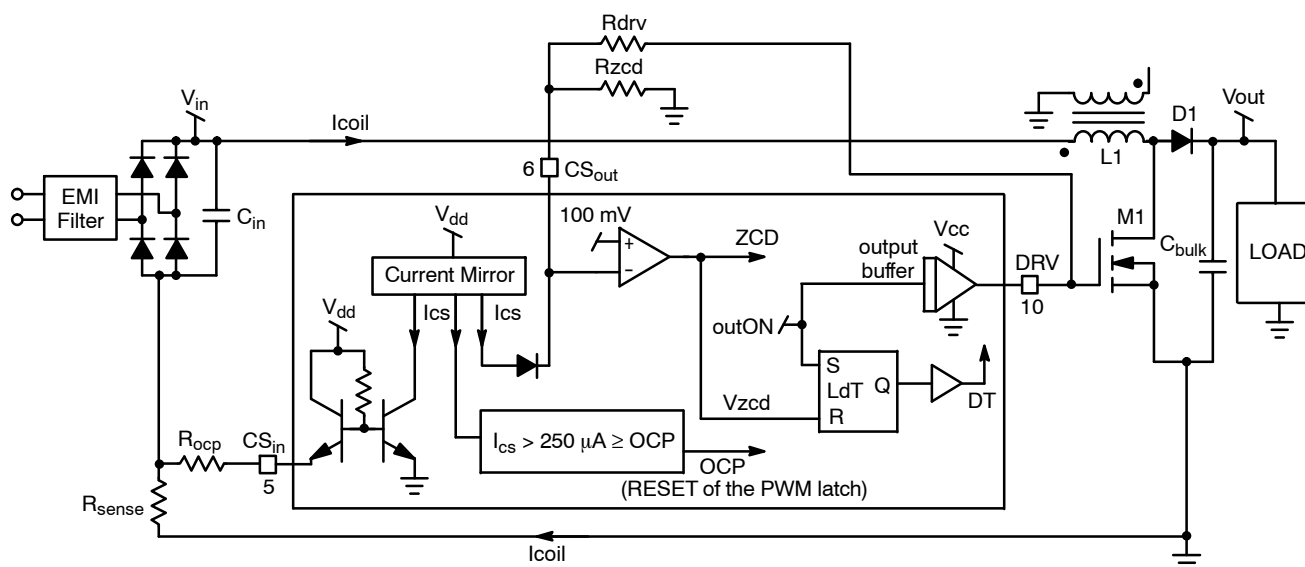

Figure 60. Current Sense Block
The NCP1605(A) is designed to monitor a negative voltage proportional to the coil current. Practically, a current sense resistor (R_{CS}) is inserted in the return path to generate a negative voltage proportional to the coil current (V_{CS}). The circuit uses V_{CS} for two functions: the limitation of the maximum coil current and the detection of the core reset (coil demagnetization). To do so, the circuit incorporates an operational amplifier that sources the current necessary to maintain the CS pin voltage null (refer to Figure 60). By inserting a resistor R_{OCP} between the CS pin and R_{CS} , we adjust the CS pin current as follows: